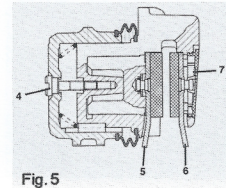

Fig. 5
Adjust the screw (4 Fig. 5) in the center of the brake calliper carrier until the brake disc runs
thick facing (6 Fig. 5) on the calliper at the side of the piston and push it with a blunt object into its lock.
- Place the spoke side brake pad (narrow strap and thin facing) (6 Fig. 5) into calliper and hold in place.
- cover (7 Fig. 5) in place.
**How to check:** A slight pull on the brake lever should result in immediate brake pad movement, e of the piston (6 Fig. 5). If it fails to do so, air must be trapped in the system. In such a case the brake must be bleed.